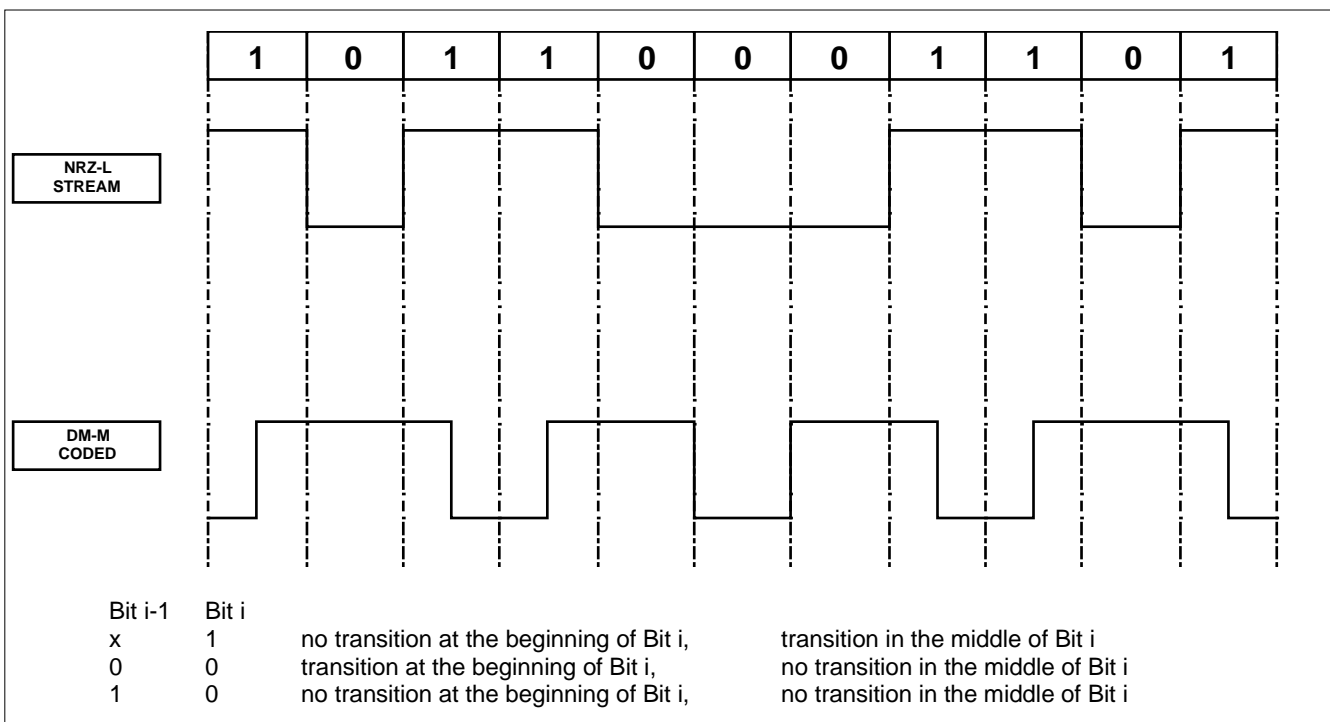

Fig. 6
Output sequence is composed of cycles which are repeated. Each cycle is composed of 82 bits Standard Message Structure (STDMS) which is Miller coded and a pause (LW) during which the modulating device is OFF (see figure 6 for details of Miller code).
The input to Miller encoder is NRZ data coming from LROM. The output is coded according to Miller format and is driving the modulator Switch. See figure 6 for example of Miller code.